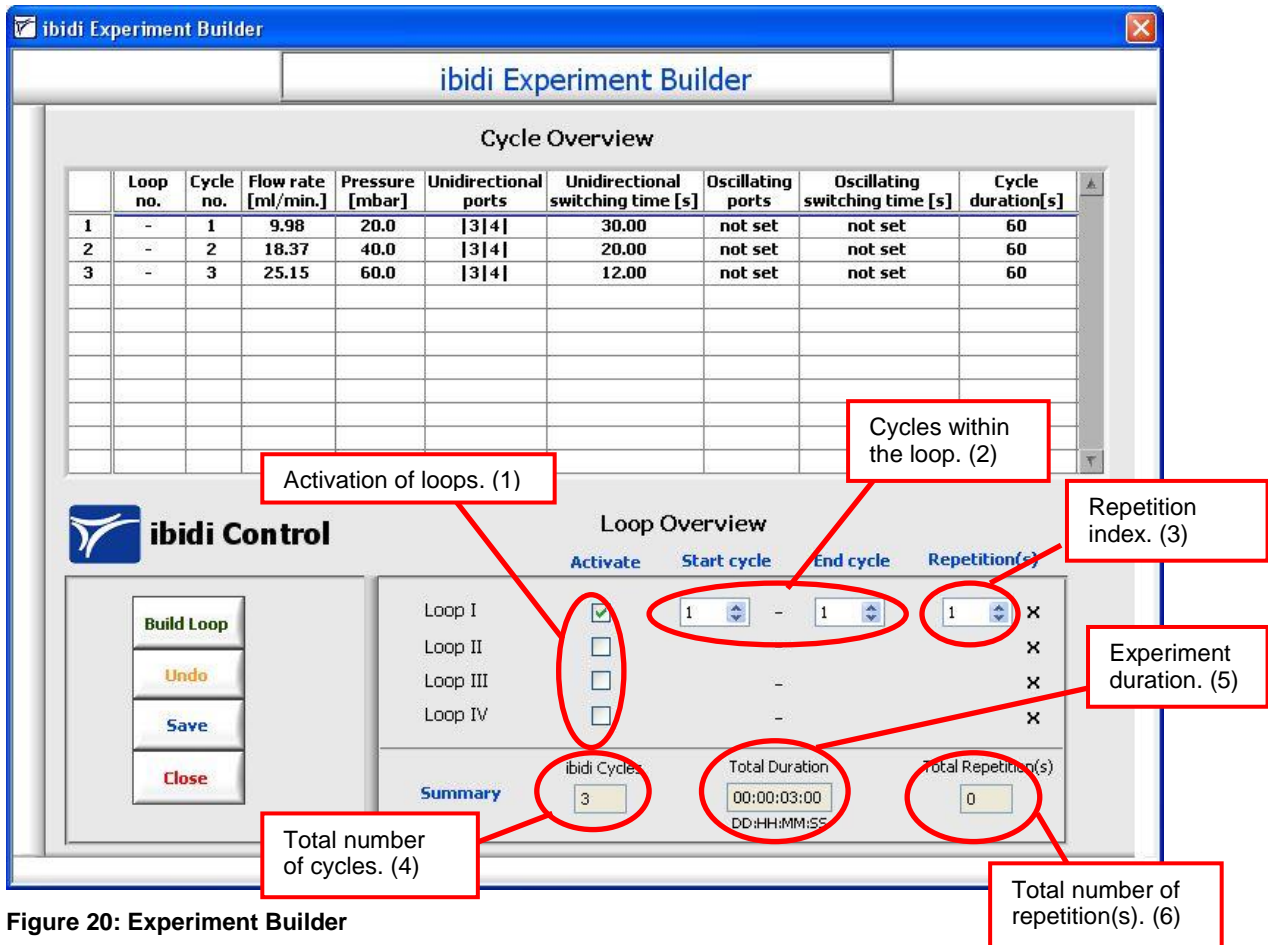

Figure 20: Experiment Builder
Before you start the ibidi 'Experiment Builder', you need to have created at least one complete cycle set. If you want to use more than one set, you should first arrange your list in the desired order. This is done because all cycles are initially executed once (e.g. if you have 3 cycle sets, as shown in Figure 20, you will always start your experiment by executing cycles 1 to 3, before starting the first loop).
Once you have arranged your cycle list, you can click on the 'Experiment Builder' button, as illustrated above. A new window will open and all the programmed cycles will appear in the 'Cycle Overview' table, as shown in Figure 20.
1. Activate up to four loops (Loop I → IV) (control 1, in Figure 20).
Additionally, you'll find the indicators 4 and 5, as shown in Figure 20. These show the total number of cycles of your experiment, and also the total duration. Indicator 6 displays the repetition(s) of the loops.